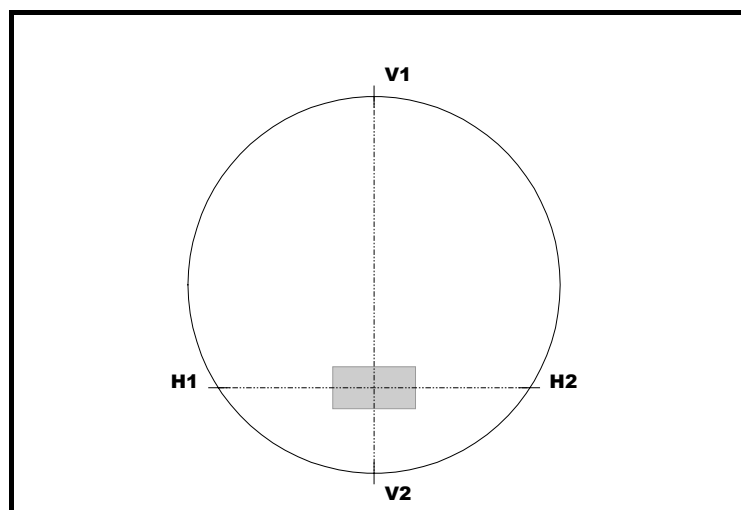

Figure 22: Beam (circle) on Receiver (rectangle) after Horizontal Alignment
4. At Site A, turn the horizontal motion screws until the installer at Site B reports maximum received power. (This assures that the beam spot is positioned symmetrically in the left-right direction about the TereScope1 receiver located behind the telescope lens, as shown in *Figure 22*.) Close the screws lightly – do *not* tighten!